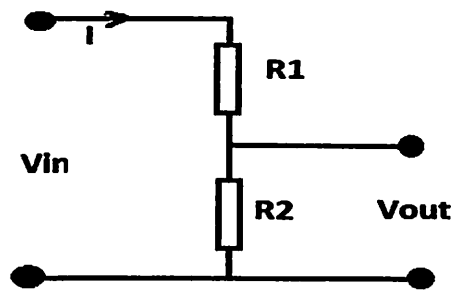

Figure Q5
- (c) For the system in Figure Q5 below